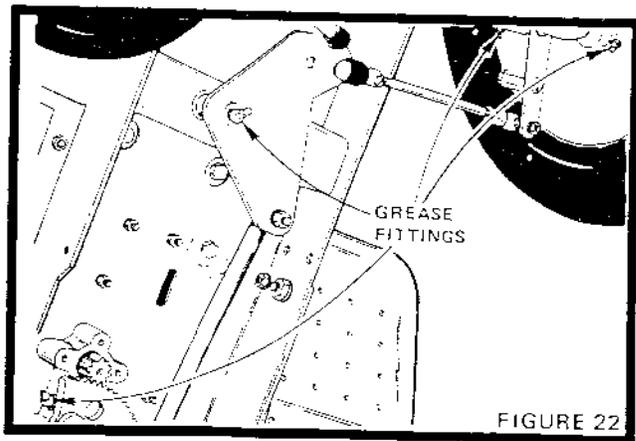

FIGURE 22
Use a Grease Gun with Extreme Pressure Lubricating Grease Amdex No. 1 (available at your local Sears Service Center) for the six Grease Fittings on the underside of your tractor (Fig. 22).
- Two shots will adequately grease the other four underside fittings (Fig. 22) and Changer Sheaves (Fig. 18).